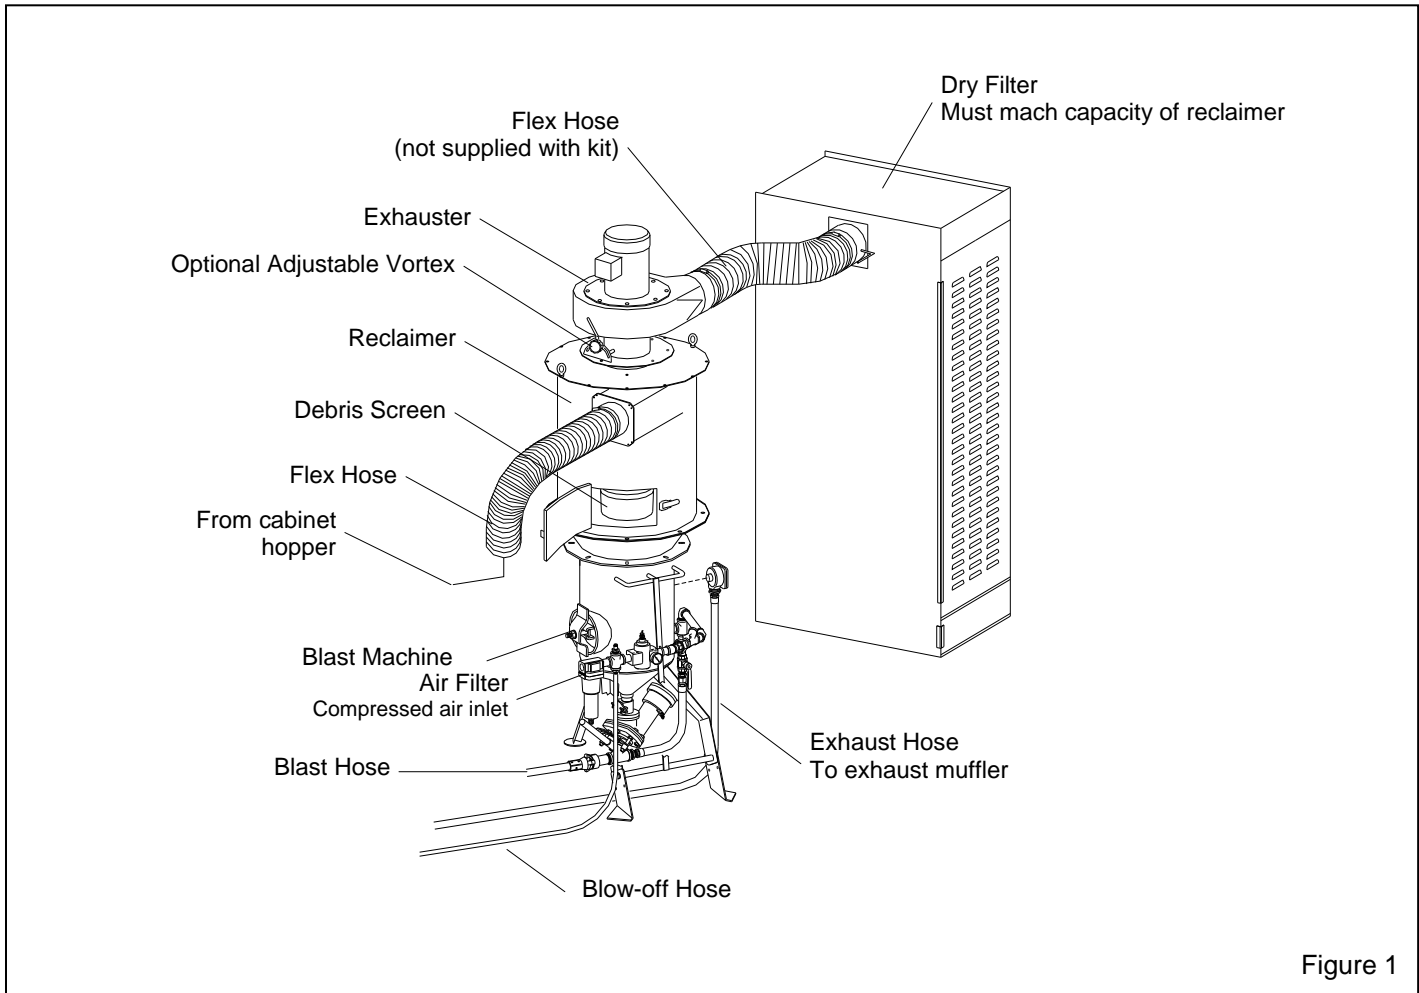
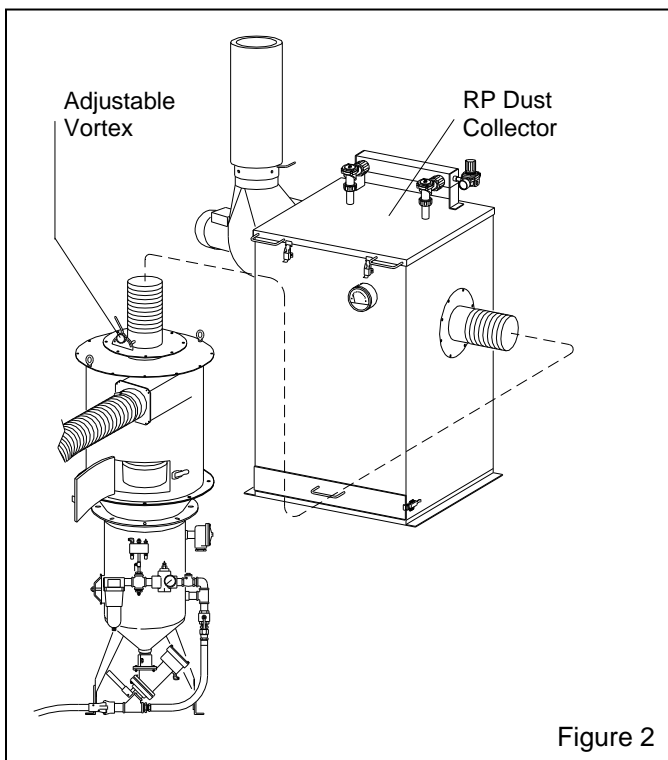

Figure 1
Figure 2
See Figure 1 for a push thru arrangement with a dry filter. Figure 2 shows a pull-thru arrangement with a reverse-pulse dust collector.
**2.1.1** See Figure 1 and 2 for the general arrangement and Figure 4 for the control line schematic. Select a location where compressed air and electrical service are available. The location must comply with OSHA and local safety codes. Allow for full access to all doors and service areas. Ideally, locate the blast machine directly behind the cabinet with the blast hose connection toward the cabinet. The reclaimer may be rotated on the blast machine to enable hose connections with as few bends as possible. Determine the best location, and position all units before final assembly.